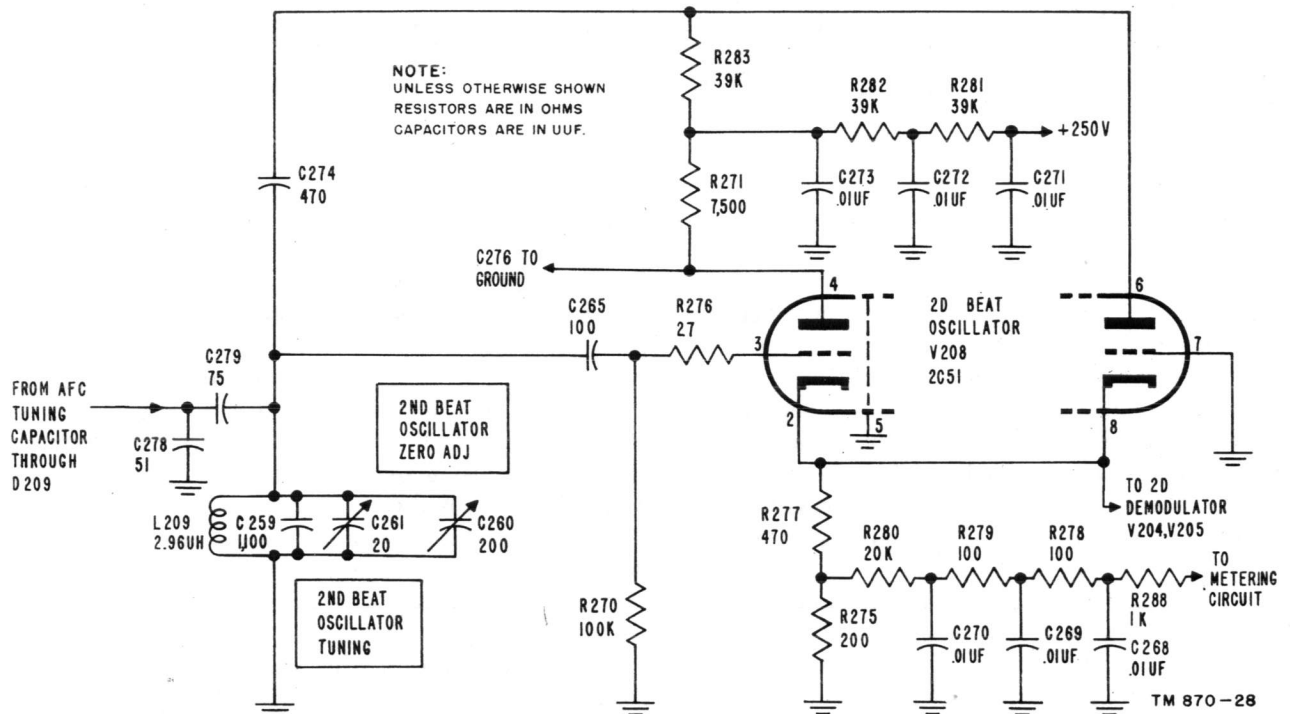

Figure 36. Second beat oscillator, schematic diagram.
72. Second Beat Oscillator (fig. 36)